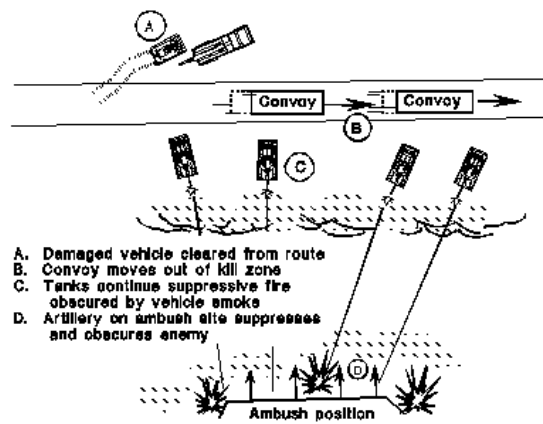

Figure 5-8B. Convoy continues to move.
- o The platoon leader or the convoy commander may request that any damaged or disabled vehicles be abandoned and pushed off the route (Figure 5-8B).